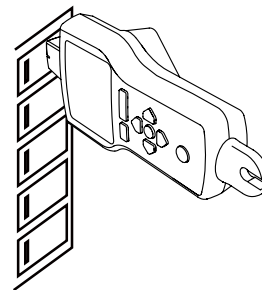

Figure 3.3e: Correct alignment of the Tip Sensor to the breaker
2. Scan each breaker/fuse for a second by touching it with the Tip Sensor. Make sure the groove on the Tip Sensor is parallel to the breaker/fuse lengthwise (Figure 3.3e).
2. Rescan each breaker/fuse by touching each with the Tip Sensor for a second. Active red arrow indicates scanning process. Make sure the groove on the Tip Sensor is parallel to the breaker/fuse lengthwise (Figure 3.3e).